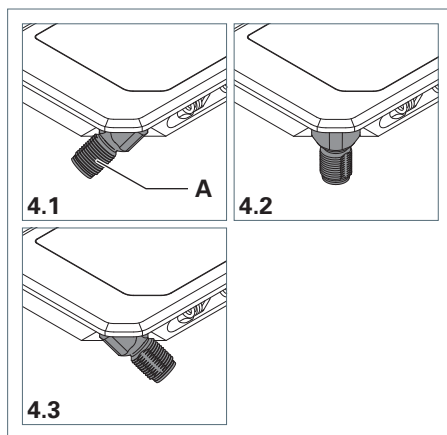

Fig. 4: APE – Positions of the plug.
- Turn the plug **A** to the intended position, see Fig. 4.